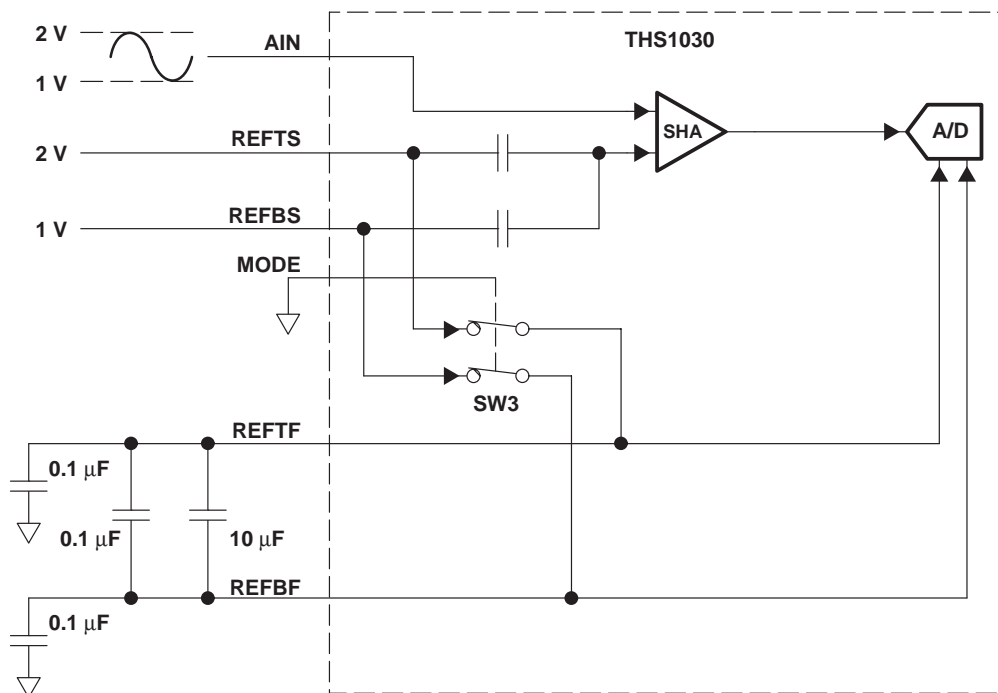
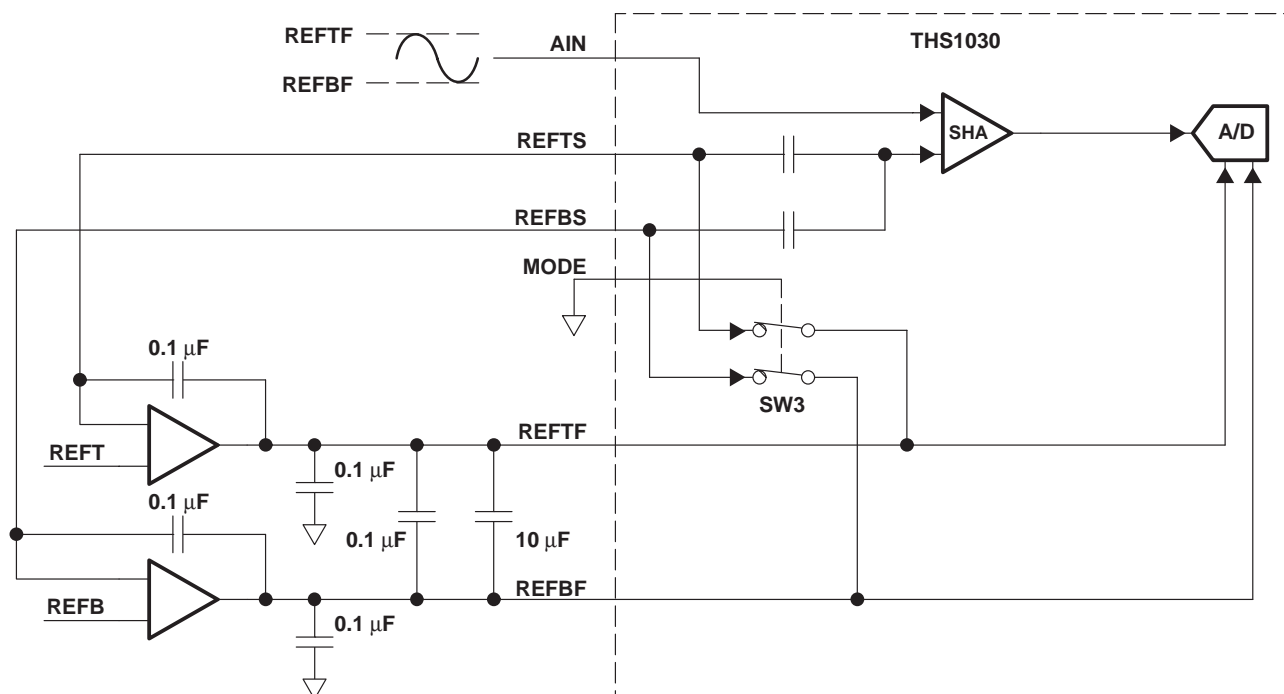

Figure 14. External ADC Reference Mode
Figure 15. Kelvin Connection With External ADC Reference Mode
- **External ADC Reference Mode:** A single-ended analog input is accepted at the AIN pin where the input signal is bounded by the voltages on the REFTS and REFBS pins. Figure 14 shows an example of applying external reference to REFTS and REFBS pins in which REFTS is connected to the low-impedance 2-V source and REFBS is connected to the low-impedance 2-V source. REFTS and REFBS may be driven to any voltage within the supply as long as the difference $(REFTS - REFBS)$ is between 1 V and 2 V as specified in Table 2. Figure 15 shows an example of an external reference using a Kelvin connection to eliminate line voltage drop errors.